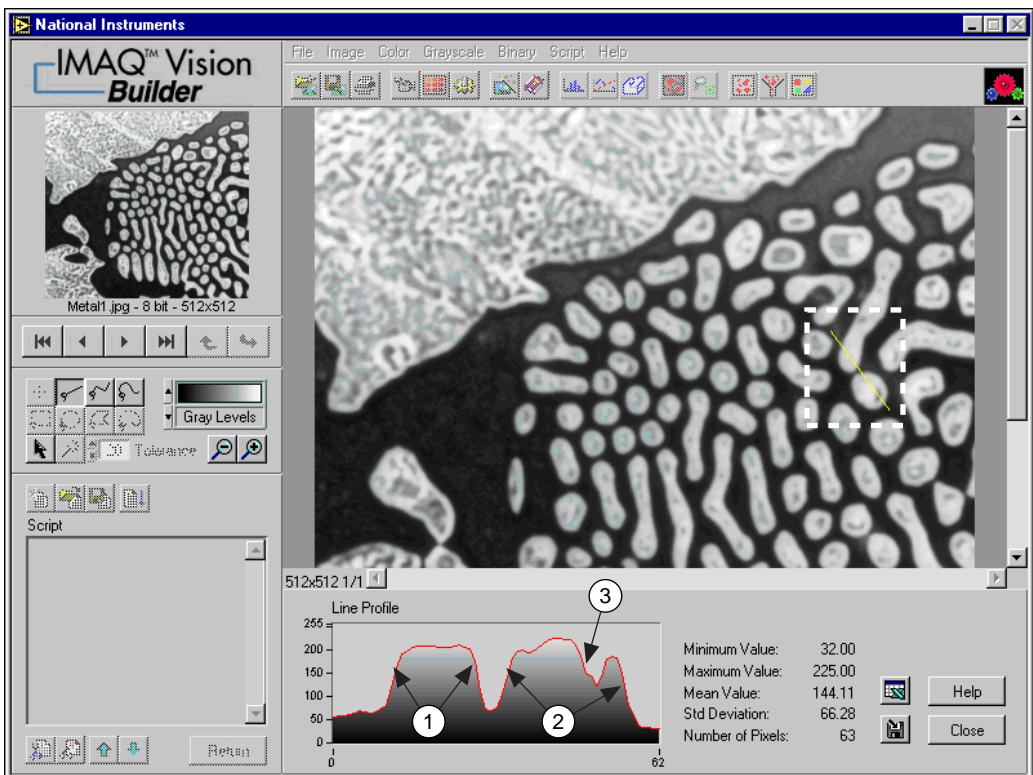

Figure 3-1. Using a Line Profile to Examine Edges
2. Draw a short segment across a particle, as shown in Figure 3-1.
In Figure 3-1, the areas labeled 1 and 2 represent the edges of the particles. Notice that the edges of both particles have a slope. The more shallow the slope, the greater variation you will have in detecting the exact location of the edge. As you change the threshold level in images with shallow-sloped particle edges, you could inadvertently change the